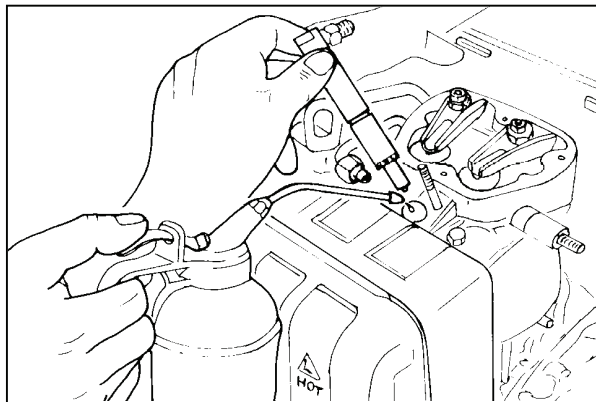

Figure 17
4. Prior to placing back onto engine, spray some oil on the injector seat ensuring that the injector slides back into place. See figure 17. Refit the injector by pushing it back into place.